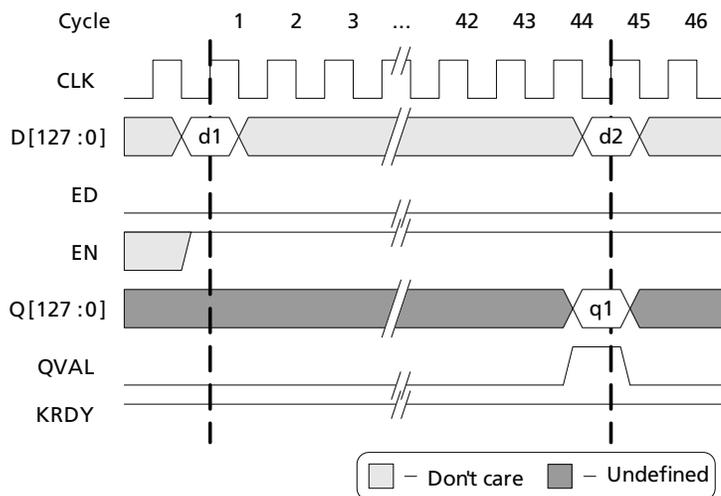

Figure 4 · Example Decryption Sequence
Follow the steps below to begin the decryption data process (Figure 4 on page 12):
2. Set D[127:0] to the ciphertext data to be decrypted (d1 in Figure 4).
After 44 clock cycles of the EN input being held continuously at logic '1', the QVAL signal will transition from logic '0' to logic '1' and remain valid for one clock cycle, indicating that valid plaintext (unencrypted data, shown as q1 in Figure 4) is available on the Q[127:0] outputs. The decrypted plaintext data is only available during clock cycle 44, so you must register or latch the data on Q[127:0] using the QVAL signal as a qualifying register enable or latch enable.
As shown in Figure 4, continuous decryption is possible. For example, the second 128-bit cipher text data word (d2 in Figure 4) can be immediately decrypted by setting the D[127:0] inputs to d2 on the rising clock edge of clock cycle 45.